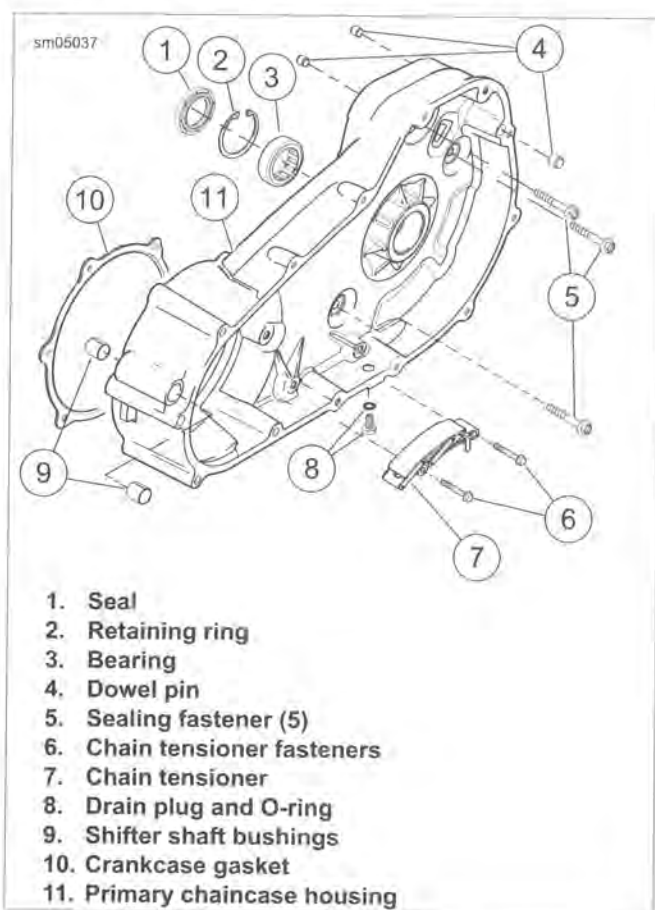

Figure 5-19. Primary Chaincase Housing
5. See Figure 5-19. Remove five sealing fasteners (5) and remove primary chaincase housing (11). Discard the crankcase gasket (10) and sealing fasteners.
1. See Figure 5-19. Remove seal (1). Use a seal remover or rolling head pry bar for best results.
2. Remove retaining ring (2).